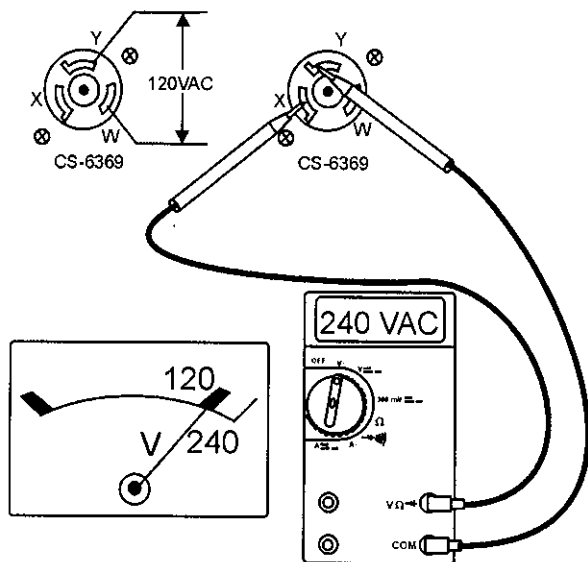

Figure 23. 120/240 CS-6369 Receptacle
- The CS-6369 receptacle is a dual voltage receptacle (120/240 volts). Using an external voltmeter as shown in Figure 23, verify that 120/240 VAC is present at the CS-6369 twist-lock receptacle..